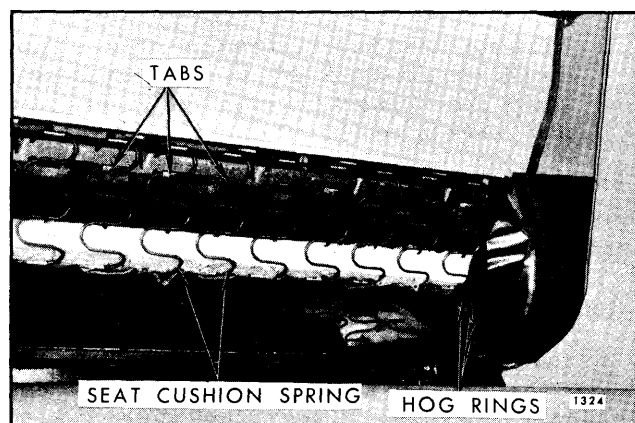

Fig. 15-18—Seat Cushion-to-Back Spring Attachment
3. On "A-X & Z" body full width front seats, raise lower edge of seat back trim, detach fiberboard breakover foundation and bend out tabs on seat back frame securing seat cushion springs (Fig. 15-18). Disengage springs from tabs.